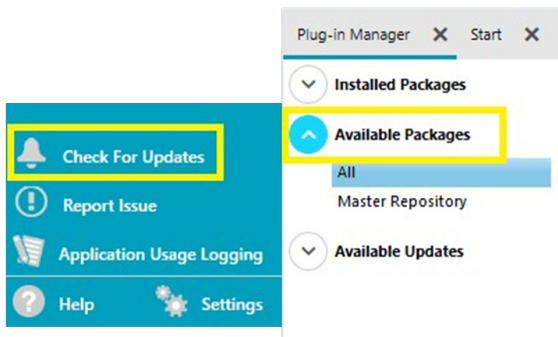

Figure 22. Plugin Manager Option in the ACE Sidebar
- Run the ACE software. Select **Plugin Manager** from the ACE sidebar to install the board plugin that supports the product evaluation board, and select **Available Packages**, as shown in Figure 22. You can use the search field to help filter the list of boards to find the relevant one. An ACE quick start guide is available at ACE Quickstart - Using ACE and Installing Plugins.